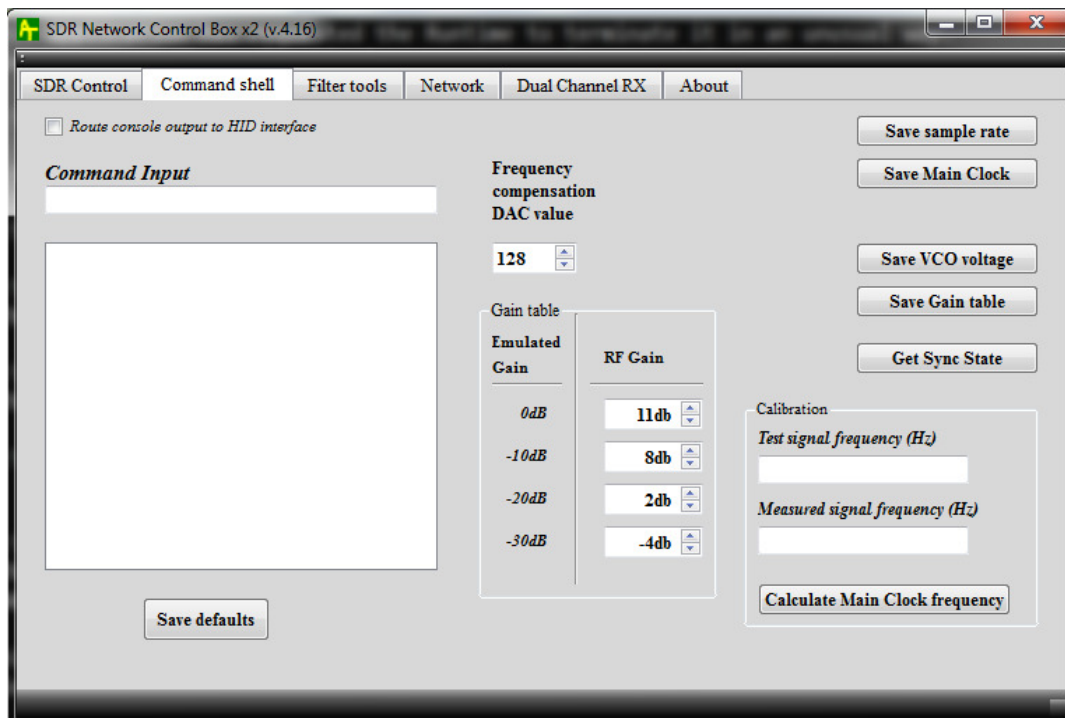

Figure 4 Command shell tab
Screenshot of “Command shell” tab is shown on Figure 4.
3.2.10. The Group Box “Calibration” – (see Figure 4 and 5), is used for calibration (calculation) precision value of the main clock oscillator. The calibration process is very simple.